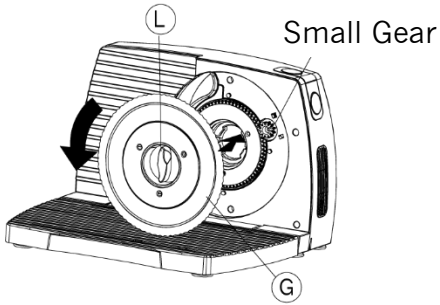

fig.11
7. Refit the blade (fig.11), line up the tabs on the blade assembly with the slots in the small gear and once the blade sits flush turn the blade lock **ANTICLOCKWISE** to secure.